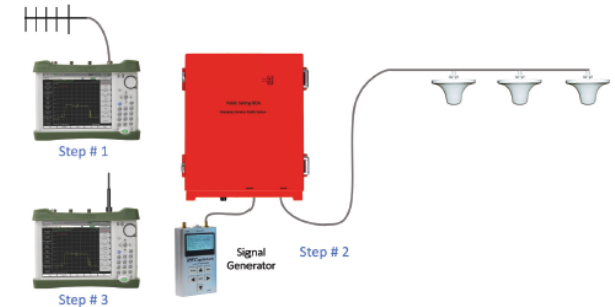

Figure 22.9.3 Exterior Leakage Test
2. Connect a spectrum analyzer, or other measuring device, to the donor coax line that would normally be connected to the donor port of the BDA as shown in Step 1 of Figure 22.9.3. Measure the RF channel power of the incoming signal from the donor antenna.